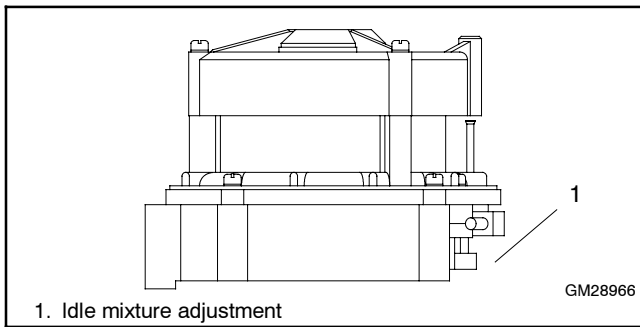

Figure 9-51 100/125 kW with Nollf 475 Style Fuel Mixer
- c. **100/125 kW (with single fuel) generator sets.** Nollf N16-475-5A and N16-475-9A style gas mixers used on 100 kW 8.1 L GM and 125 kW 8.1 L GM turbocharged engines. See Figure 9-51. This gas mixer style does not have a fuel mixture adjustment.
- Adjust the idle mixture adjustment (Figure 9-51) to obtain a no load oxygen sensor voltage reading within specifications.
- h. Adjust the idle mixture adjustment (Figure 9-51) to obtain a no-load oxygen sensor voltage reading within specifications. See Figure 9-44.